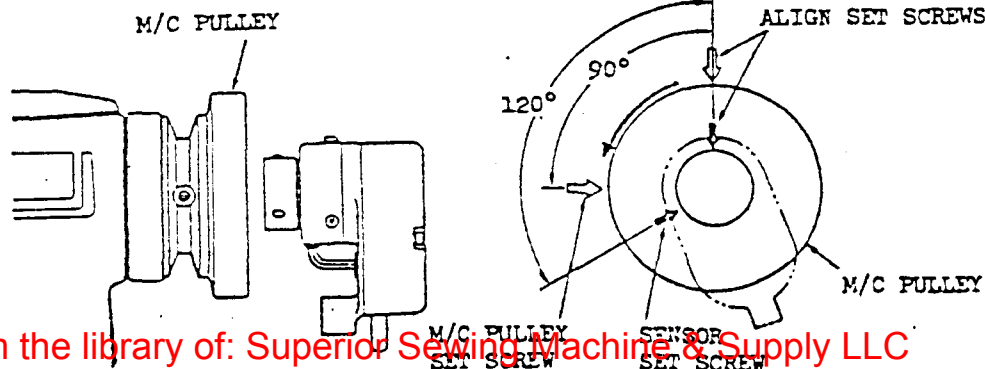

Fig. 14
2. Position sensor on hub of machine pulley so that its second set screw (set screw which appears immediately after the first set screw when sensor is rotated over toward the operator) is aligned with the second set screw of the machine pulley and firmly tighten the two set screws. (See Fig. 14)